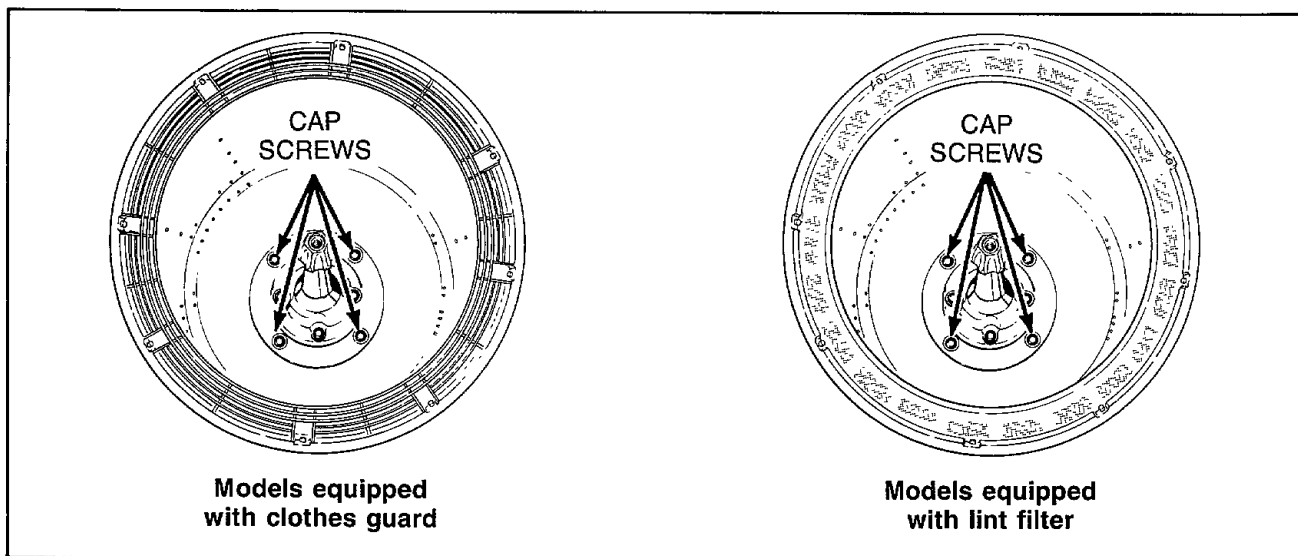

Figure 27
- Remove four cap screws and washers holding washtub to hub, *Figure 27*.
- Remove the four cap screws holding washtub to hub, *Figure 27*, then lift washtub out of outer tub.
- f. Remove four cap screws and washers holding washtub to hub, *Figure 27*.